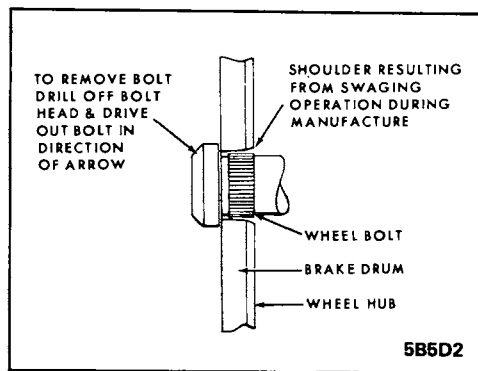

Figure 5D-2 Bolt Pressed Into Place
2. Secure hub and drum assembly in a vise *and mark* center of the bolt head with a center punch. Drill 1/8" pilot hole in head of bolt; redrill head using a 9/16" bit. Cut off any remaining portion of bolthead using a chisel and then drive out bolt with drift. See Figure 5D-2.